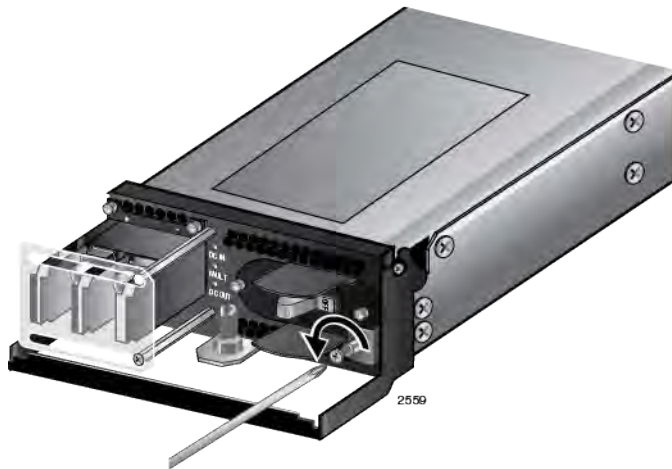

Figure 68. Loosening the Handle Locking Screw on the AT-SBxPWRSYS1 DC Power Supply
5. With a #2 Phillips-head screwdriver, loosen the handle locking screw on the power supply, as shown in Figure 68.